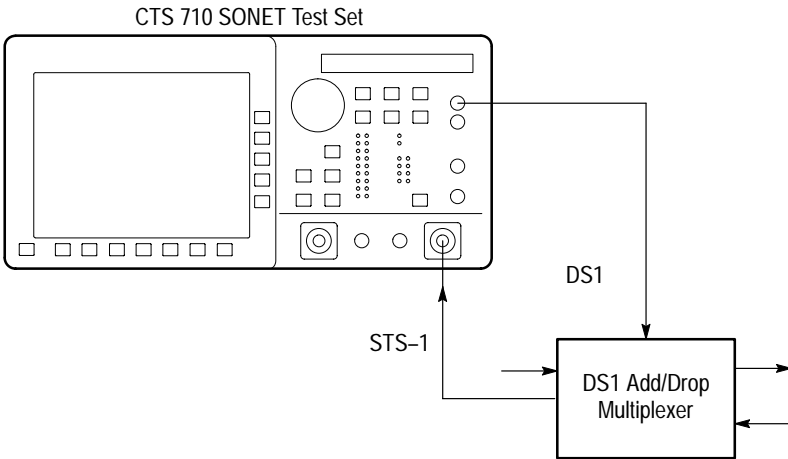

Figure 3-3: Setup to Test Mapping and Demapping
1. Connect the CTS 710 to an Add/Drop Multiplexer (ADM) as shown in Figure 3-3.